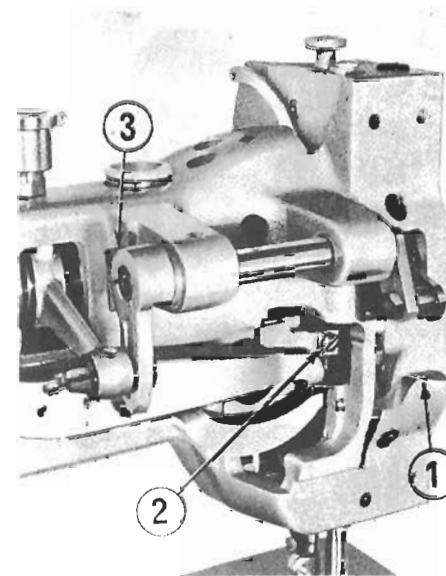

Fig. 19
To adjust the height of the presser foot by the hand lifter (Fig. 19 ①), loosen the clamp screw of the lifter lever bracket (Fig. 19 ②), adjust the clearance between the lower surface of the presser foot and the upper surface of the needle plate to approximately 8.5 mm (21/64") while lifting the hand lifter, then tighten the clamp screw.
To adjust the height of the presser foot and the walking foot so that the rising amount becomes equal, lower the presser foot, loosen the clamping screw (Fig. 19 ③) of the upper feed spring rod, rotate the hand wheel slowly towards you and when the surface of the presser foot and the walking foot come in one line with respect to the upper surface of the throat plate when the presser foot completes its oscillating movement, tighten the screw. To change the rising amount of the presser foot and the walking foot, loosen the upper feed spring
rod, of screw (Fig. 19 ③) and when the lower surface of the presser foot and the walking foot come in one line above the throat plate, turn the hand wheel towards the operator and re-tighten the screw. Then the presser foot amount becomes larger than the walking foot amount. But if the hand wheel is rotated in the reverse direction away from the operator, the reverse condition ensues, i.e. the rising amount of the walking foot gets larger than the presser foot. Consequently, the greater the rotation of the hand wheel, the greater the difference in the rising amount of the presser foot and the walking foot.